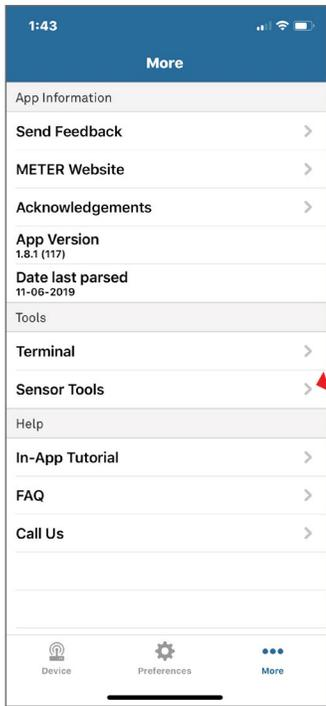

Figure 15. Sensor More screen
10. Select Sensor Tools on the More screen (Figure 15) to open the Sensor Tools screen.